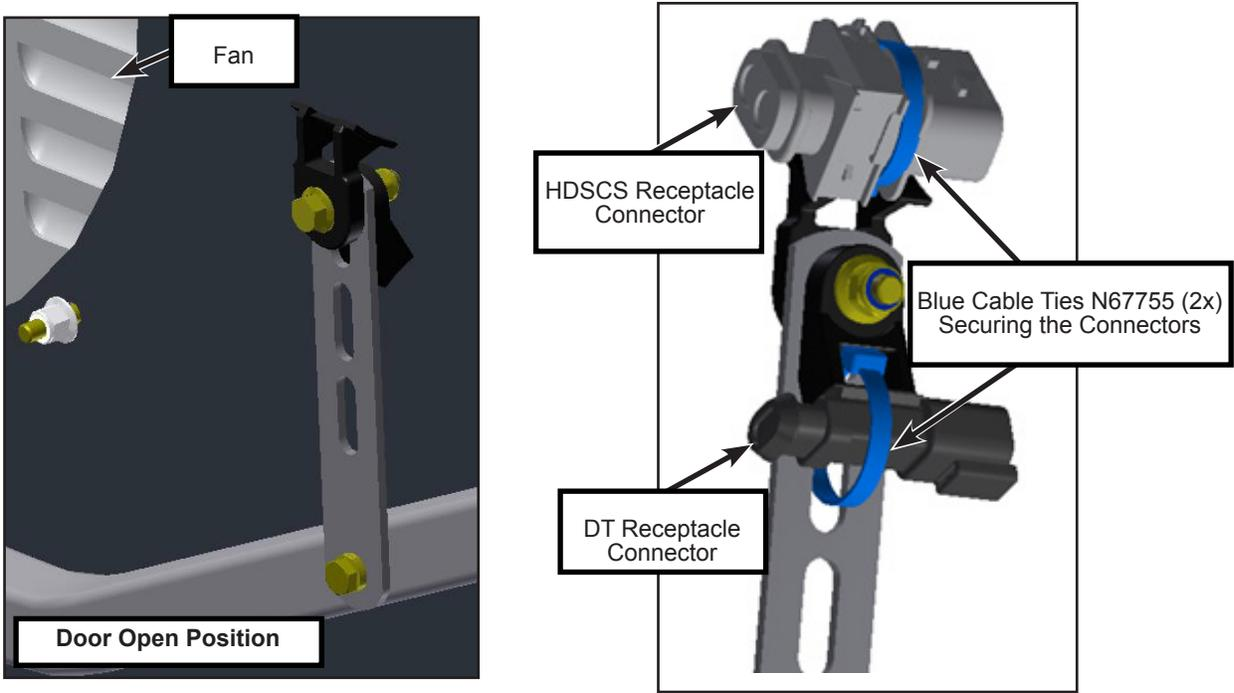

Figure 11 - Securing the HDSCS and DT Receptacle Connectors of the Harness Side
- 1.25. Secure the HDSCS receptacle connector on the harness side with the upper tie-mount (door open) using a blue cable tie PN N67755 (1x) (see figure 11 and 12) and connect it to the HDSCS plug connector on the fan side. While mating both connectors, press the yellow slide lock of the plug connector to latch and lock both connectors together.
- 1.26. Secure the DT receptacle connector with the lower tie-mount (door open) using a blue cable tie PN N67755 (1x) (see figure 11 and 12).